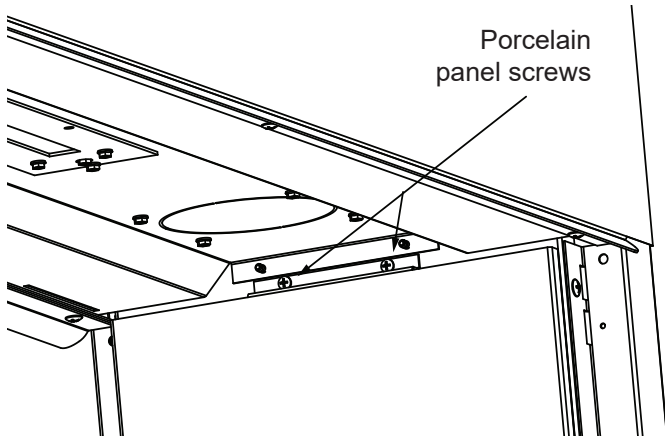

Figure 27. Porcelain Panel Screw Location
1. Remove two (2) air deflection glass panels.
3. Remove two (2) screws holding top of panel in place. See Figure 27.